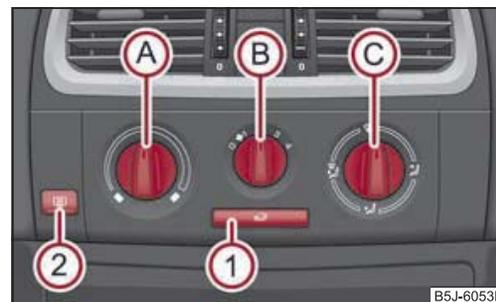

Fig. 91 Heating: Control elements
You can set the air supply to the individual vents with the air distribution control **C** ⇒ fig. 91. Air outlet vents 3 and 4 can also be opened or closed individually.
- Turn the control dial **A** ⇒ fig. 91 to the right in order to increase the temperature.
- Controls **(A)**, **(B)**, **(C)** and button **(1)** ⇒ page 78, fig. 91.
- Press the button   ⇒ page 78, fig. 91 the warning light lights up in the button.
The recirculated air mode is switched off automatically if the air distribution control  is in position  ⇒ page 78, fig. 91. You can also switch recirculated air mode on again from this setting by repeatedly pressing pushbutton .